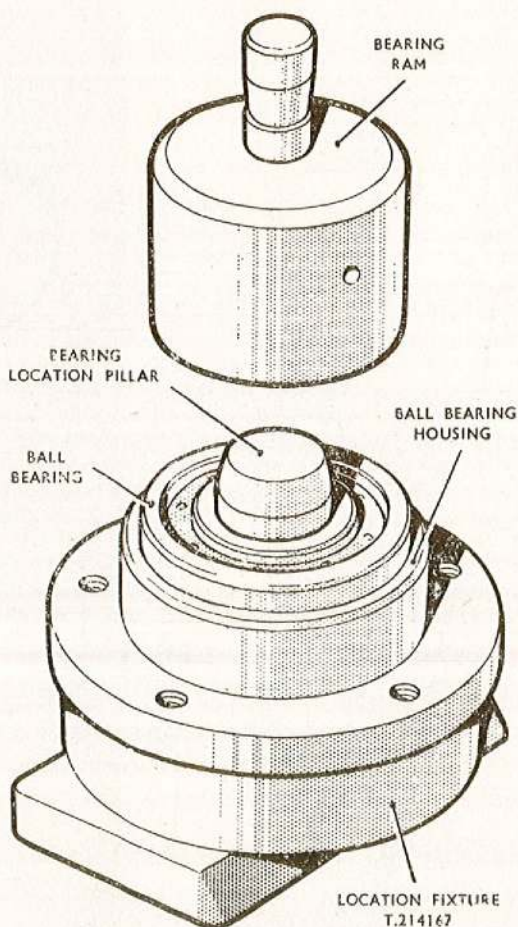

Fig. 25. Fitting the main bearing to the housing
(1) Using the tool T.214167 shown in fig. 25, locate the bearing housing on the tool base and lower the bearing over the pillar. Lower the ram on to the bearing then press the bearing fully into the housing under a hand press.
(2) Insert the spacing washer and circlip and ensure that the circlip seats correctly. With a feeler gauge check that the clearance between the spacing washer and circlip does not exceed 0.002 in.